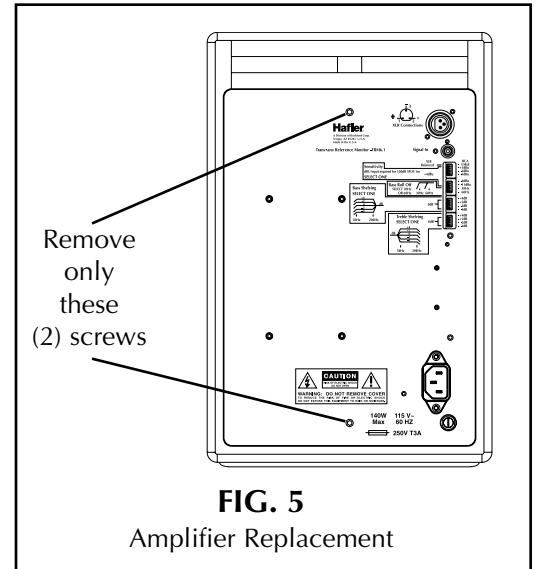

FIG. 5
1. Remove (2) screws from back using a 3/32" Allen Wrench (FIG. 5)